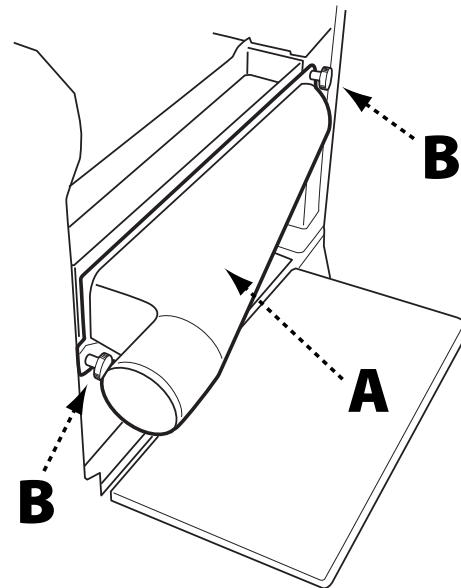

FIGURE 2
Refer to Figure 2
1. Remove the dust chute by unscrewing the two lock knobs shown in Figure 2.